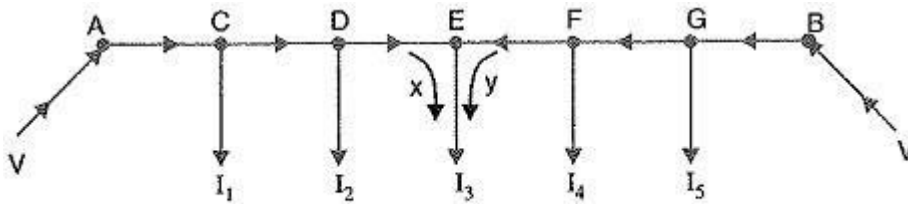

Fig. 13.14
- 1. Two ends fed with equal voltages:** Consider a distributor AB fed at both ends with equal voltages V volts and having concentrated loads I_1, I_2, I_3, I_4 and I_5 at points C, D, E, F and G respectively as shown in Fig. 13.14. As we move away from one of the feeding points, say A, p.d. goes on decreasing till it reaches the minimum value at some load point, say E, and then again starts rising and becomes V volts as we reach the other feeding point B.